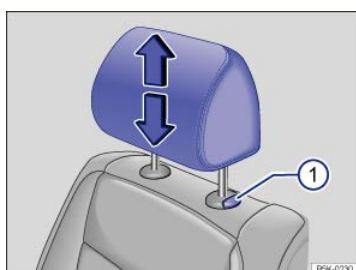

Fig. 40 Adjusting the head restraints.
- Pull the head restraint up in the direction of the arrow, or push it down while pressing the button ⇒ Fig. 40①⇒ ▲.